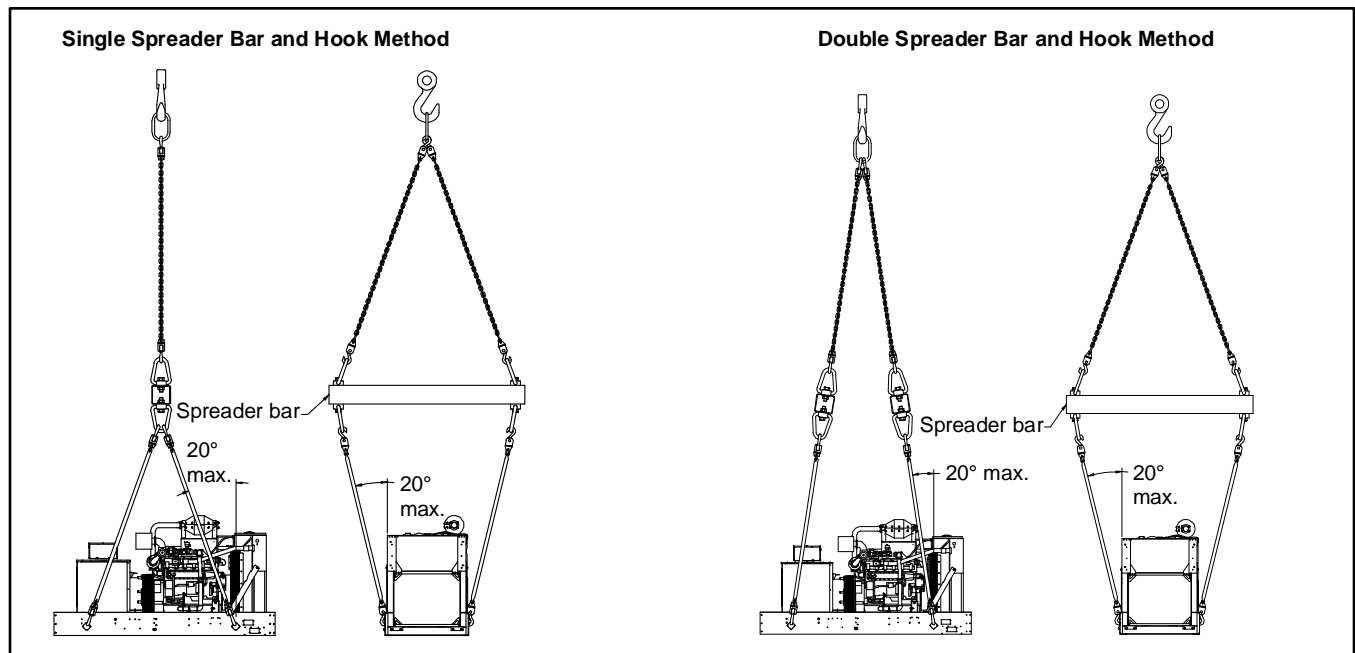

Figure 4 Single and Double Spreader Bar and Hook Method
- See Figure 4 for the spreader bar and hook methods.